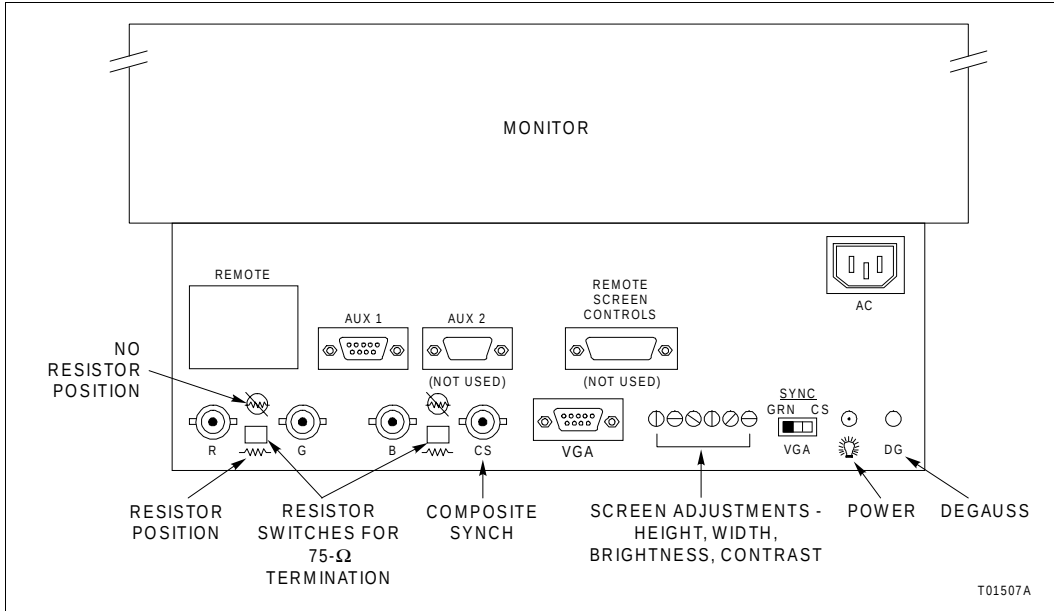

Figure PR37-1. Monitor Connections and Adjustments
- ☐ 4. Install the power cord and RGB cables to the rear of the monitor (Fig. PR37-1).